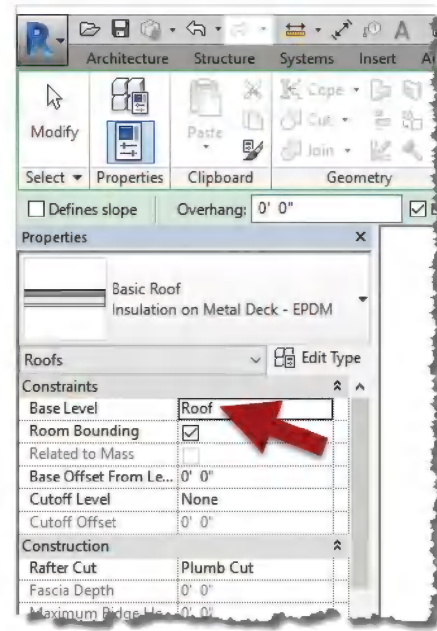

FIGURE 2-4.5 Roof instance properties
10. In the *Properties Palette*, set *Base Level* to **Roof** (Figure 2-4.5).